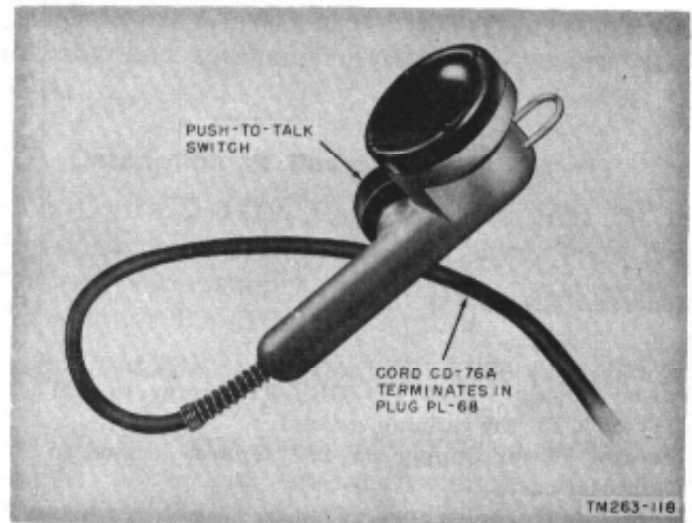

Figure 14. Microphone T-17.
c. *Microphone T-17 or Microphone T-45* (figs. 14 and 50). Used for modulation of the trans-